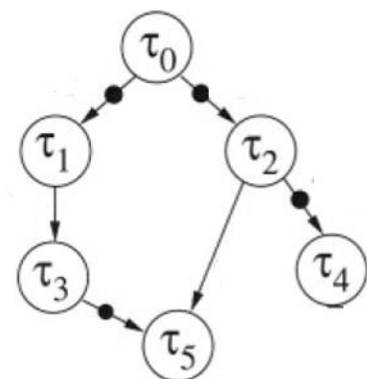

Figure 1A
- 1A. Assume the features of an embedded system are given in the form of technical tasks T_0 , T_1 , T_2 , T_3 , T_4 and T_5 . The flow of execution of these tasks is shown in **Figure 1A**. The execution time(T) and power consumption(P) of each task by various processing elements is given in **Table 1A**.